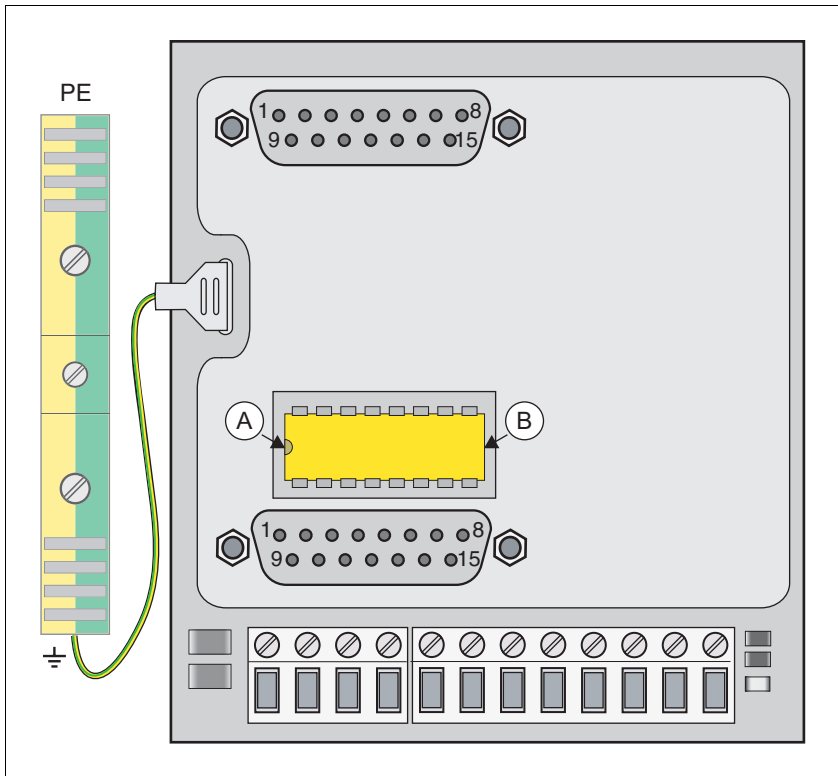

Figure 4.1 Resistor network and connection to PE
The resistor network can be removed easily by levering it from above at point (A) and (B) with a small screwdriver (see Figure 4.1).